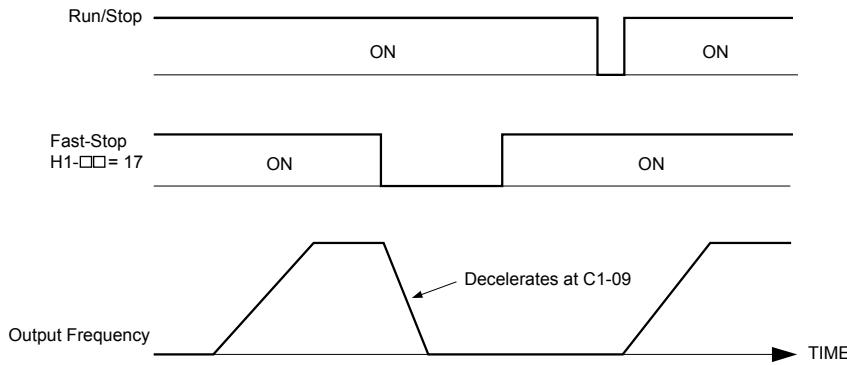

Figure 5.47 Fast-stop Sequence
**Figure 5.47** shows an operation example of Fast-stop.